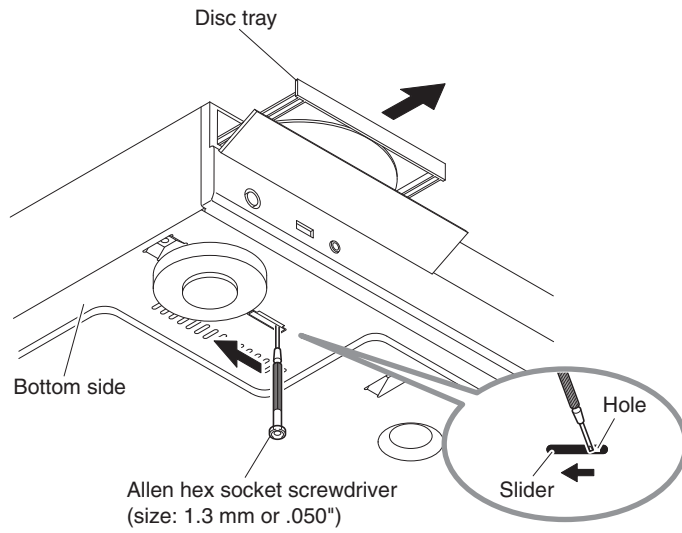

Fig. 2
- Using an Allen hex socket screwdriver (size: 1.3 mm or .050"), move the slider at the bottom side in the direction of the arrow as shown below until the disc tray comes out. (Fig.2)
- Gently pull the disc tray out. (Fig. 2)